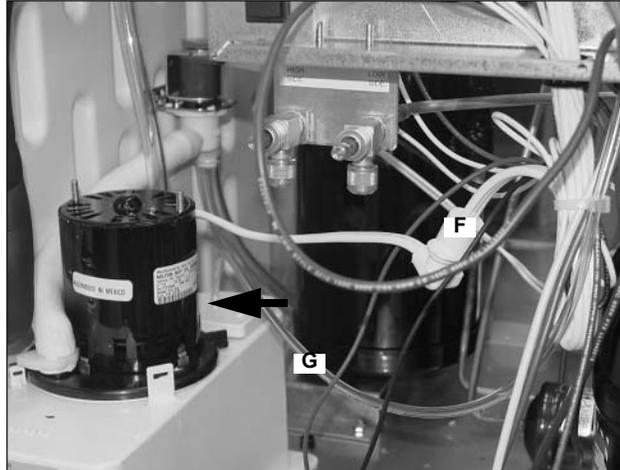

Figure 12.
8. Disconnect the Water Pump plug (F) and Transducer Pressure Hose (G) (Figure 12).